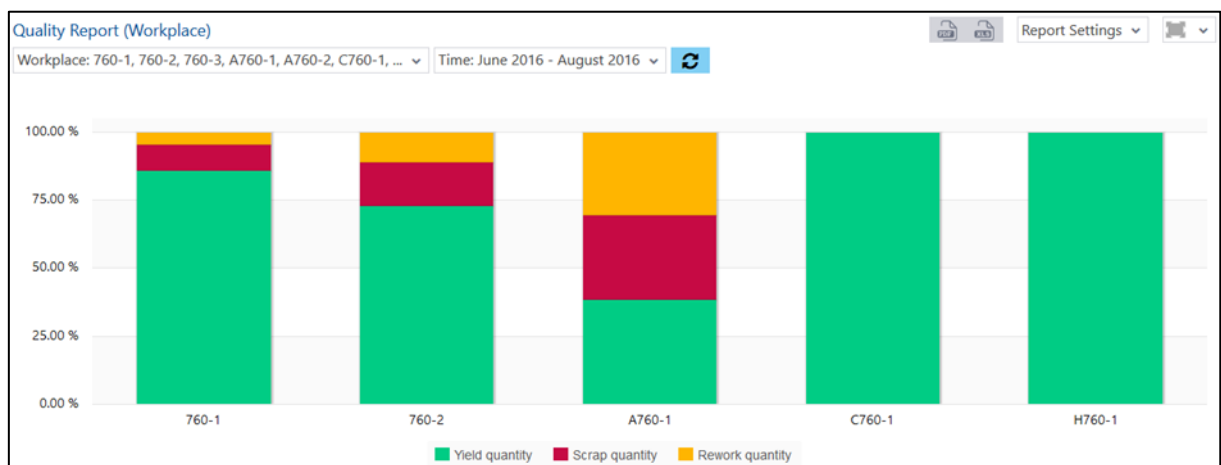

Fig. 111: Quality detail class report (workplace) as a column chart
- Quality detail class report (workplace) as a column chart (fig. 111):